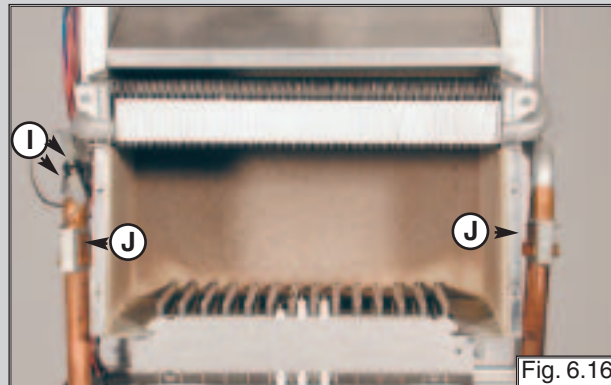

Fig. 6.16
3. Remove the overheat thermostat sensor "I" (FIG. 6.16);
4. Remove the clips "J" (FIG. 6.16);